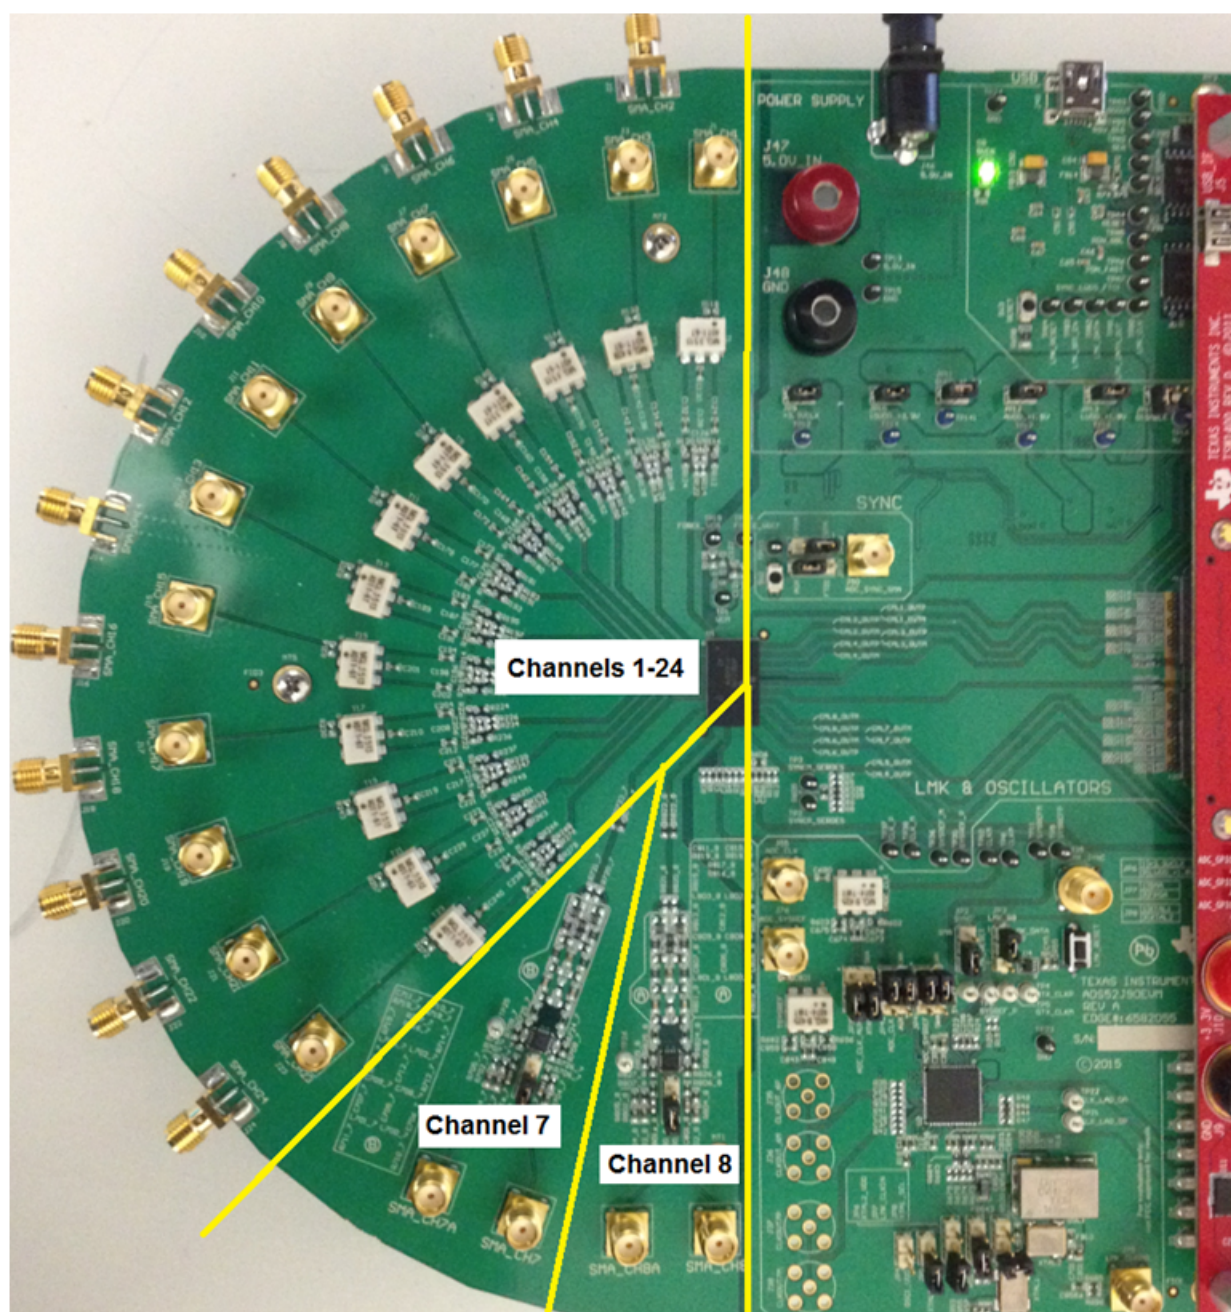

Figure 6. ADS52J90 EVM Analog Channels
The ADS52J90 supports 3 modes of operation with respect to the analog inputs: (1) 32-channel mode, (2) 16-channel mode, (3) 8-channel mode. Figure 6 shows the breakdown of the analog channels on the EVM. Testing 32-channel mode is done using all Channels 1-24 on the EVM. Testing 16-channel mode is done using the odd channels of 1-23 on the EVM. These are the vertically-mounted SMAs. Testing 8-channel mode is done using Channels 7 and 8. Channel 7 is configured to accept a differential input to **SMA_CH7A** and **SMA_CH7** whereas Channel 8 is configured to convert a signal ended input to **SMA_CH8** into a differential signal via an amplifier.